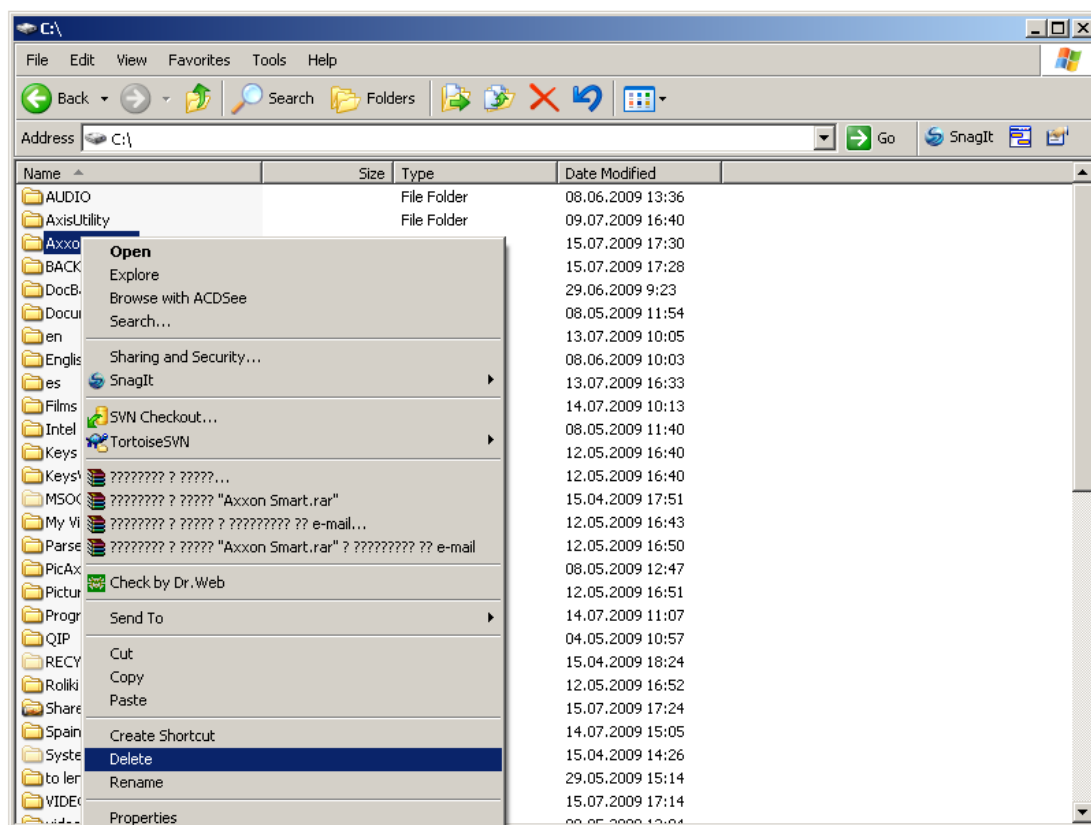

Figure 1.2.3-6
**Step 7.** Finally, delete the registry branch related to Axxon Smart: HKEY\_LOCAL\_MACHINE \SOFTWARE\AXXON SMART (Figure 1.2.3-7).